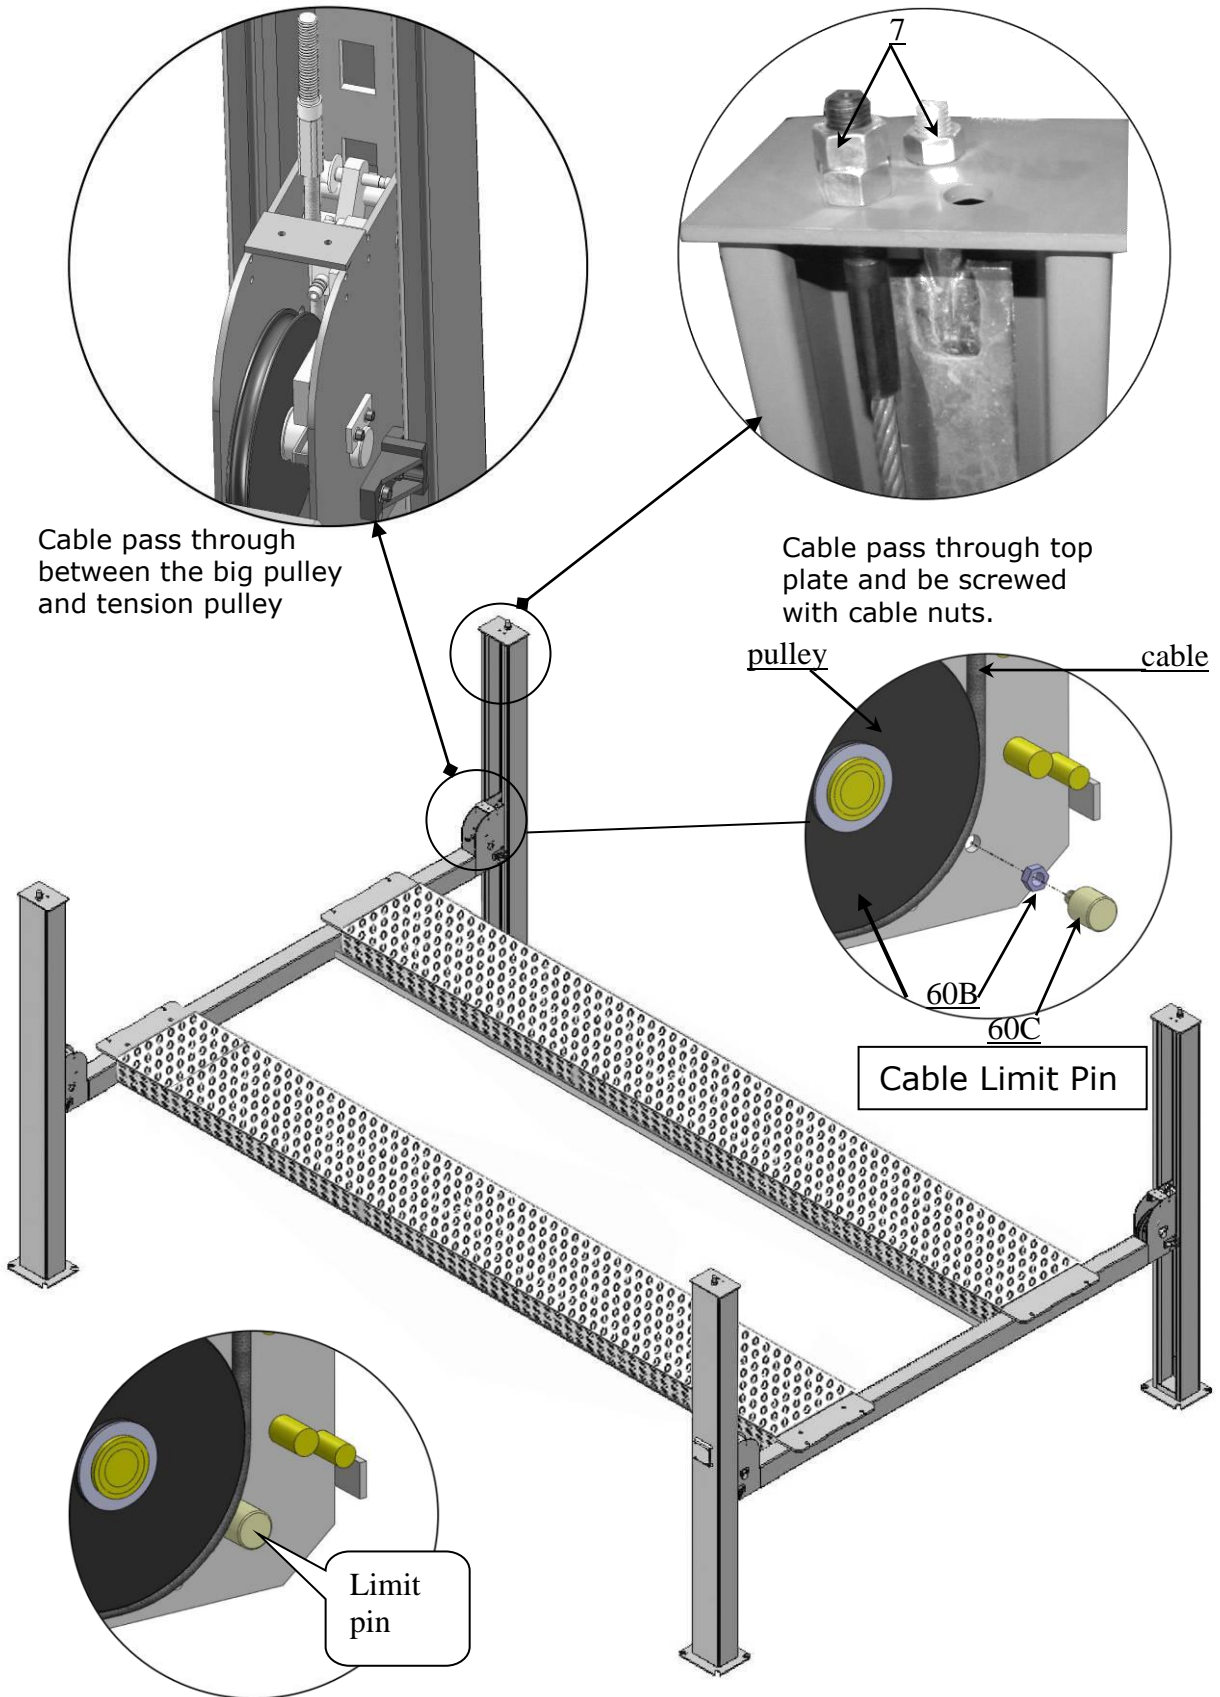

Fig. 22
2. The cable pass through the cross beam to top plate of columns and be screwed with cable nuts. Installation for Cable limit Pin on cross beam (See Fig. 22).